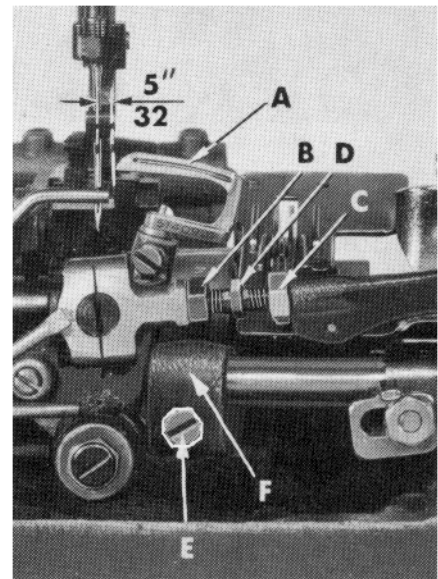

Fig. 2
Insert a new needle, type and size as specified, with spot or scarf to the rear. With the looper (A, Fig. 2) at its farthest position to the right, its point should be $\frac{5}{32}$ inch from the centerline of the needle. If adjustment is required, loosen nut (B) (it has a left hand thread) and nut (C) on connecting rod (D) and turn the connecting rod forward or backward to obtain the $\frac{5}{32}$ inch dimension (Fig. 2). Looper gauge No. 21225-5/32 can be used advantageously in making this adjustment. Retighten both nuts, first nut (C), then nut (B). Make sure the left ball joint is in vertical position and does not bind after adjustment.
The looper is set correctly front to back, as it moves to the left behind the needle, when its point passes as close as possible without contacting the needle (.001-.002). If adjustment is necessary, loosen screw (E, Fig. 2) in looper rock shaft arm (F), reposition looper as required and retighten screw (E).